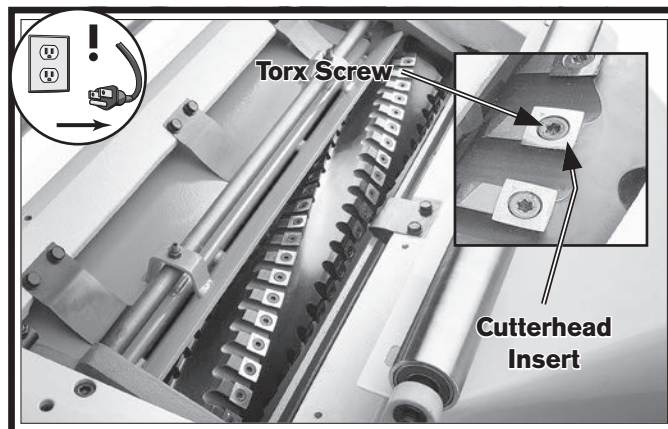

Figure 30. Example of cutterhead inserts and Torx screws.
3. Remove any sawdust or debris from head of insert, Torx screw, and surrounding area (see **Figure 30**).